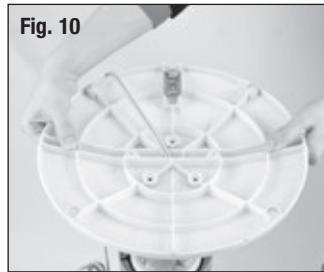

Fig. 10
- Align the rear and front base assembly and firmly snap together by pushing the 4 round extrusion into the adjacent circles of the connecting pieces (Fig. 10).